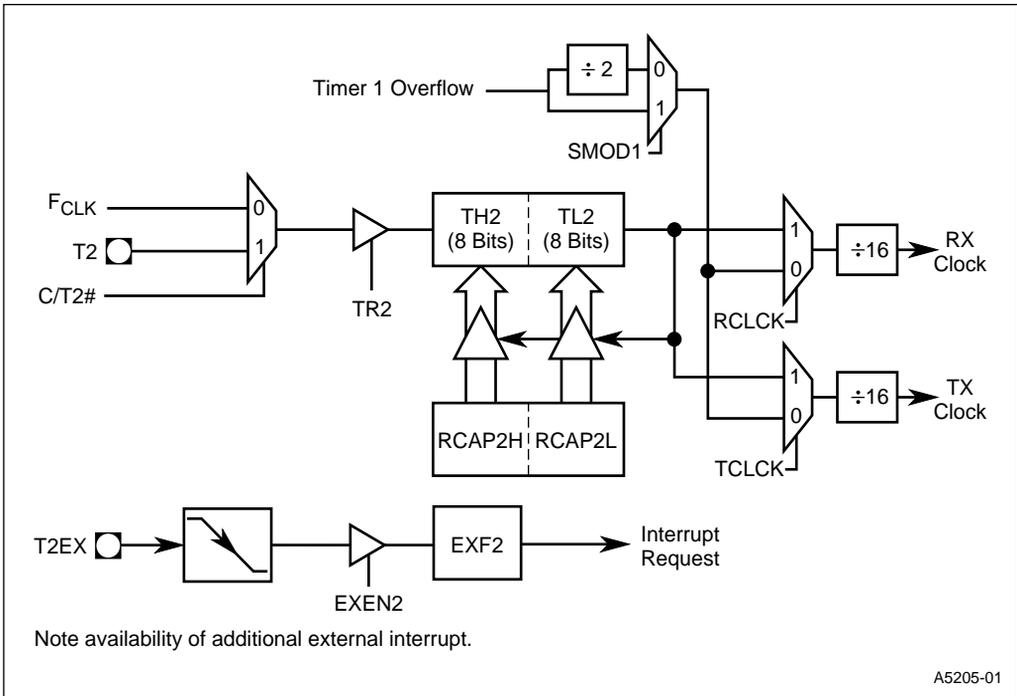

Figure 11-5. Timer 2 in Baud Rate Generator Mode
- Configure timer 1 as a timer or an event counter (set or clear the C/T# bit in the TMOD register, Figure 11-5 on page 11-7).
Timer 2 may be selected as the baud rate generator for the transmitter and/or receiver (Figure 11-5). The timer 2 baud rate generator mode is similar to the auto-reload mode. A rollover in the TH2 register reloads registers TH2 and TL2 with the 16-bit value in registers RCAP2H and RCAP2L, which are preset by firmware.
To select timer 2 as the baud rate generator for the transmitter and/or receiver, program the RCLK and TCLK bits in the T2CON register as shown in Table 11-5. (You may select different baud rates for the transmitter and receiver.) Setting RCLK and/or TCLK puts timer 2 into its baud rate generator mode (Figure 11-5). In this mode, a rollover in the TH2 register does not set the TF2 bit in the T2CON register. Also, a high-to-low transition at the T2EX pin sets the EXF2 bit in the T2CON register but does not cause a reload from (RCAP2H, RCAP2L) to (TH2, TL2). You can use the T2EX pin as an additional external interrupt by setting the EXEN2 bit in T2CON.